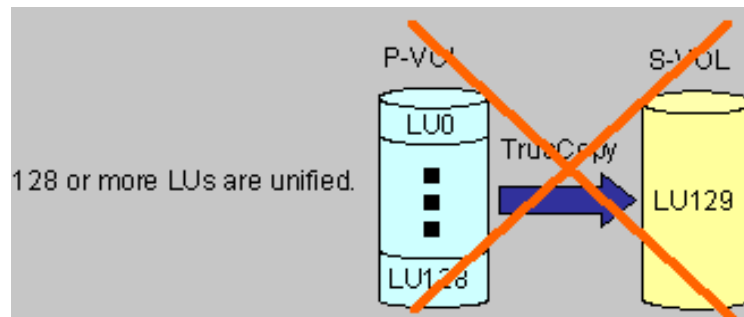

Figure 3-2: Number of LUs Restricted
- A unified LU composed of 128 or more LUs cannot be assigned to the P-VOL or S-VOL, as shown in Figure 3-2.